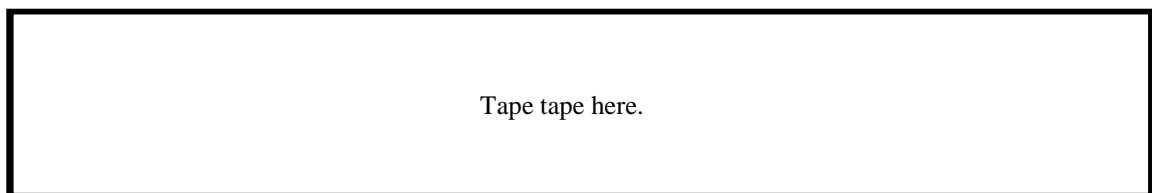

*Figure 6:* Single slit diffraction pattern, showing locations of two minima.
- The diffraction pattern on the view screen should be a horizontal line of alternating bright and dark spots something like that shown in *Figure 6* below.